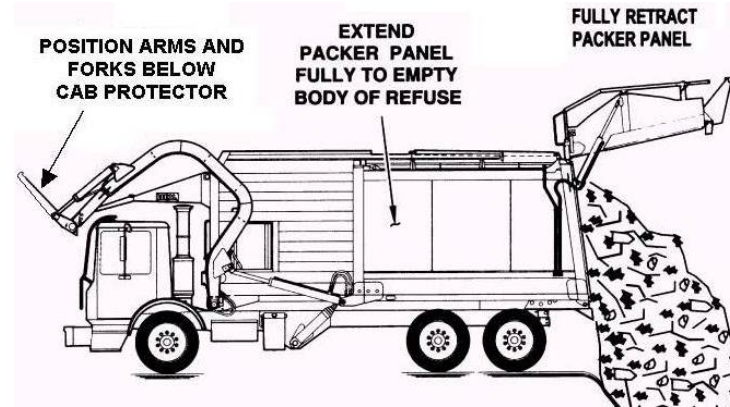

Figure 53. Before Raising Body (Standard Unit)
► Follow These Steps for a Commercial Dump Unit Without a Carrycan (Refer to Figure 53):